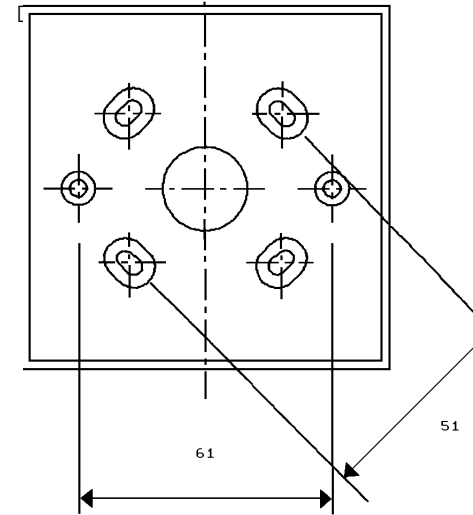

Fig. 3: FC420CP-I Fixing Dimensions Surface Mount Backbox
- 1 Connection to the FC420CP-I is made via the 4 way terminal connector as shown in Fig. 3, ensuring correct polarity.
ter box (25 mm) with KAC backbox. (See Fig 3 for overall dimensions).